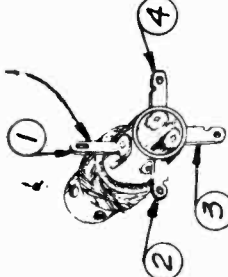

FIG. 1
- Soon after start of production on 132,806 the Oscillator coil Pt. No. N17233 was supplanted by Pt. No. N17320. The new coil Pt. No. N17320 may be identified by the fact that lug No. 1 is blank whereas the start of the white winding of coil No. N17233 was connected to lug No. 1. (See fig. 1)